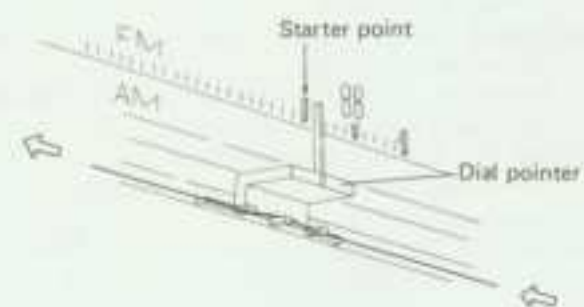

Fig. 17
9. Align the dial pointer with the starter point on the dial scale, and secure it firmly to the cord (Fig. 17).